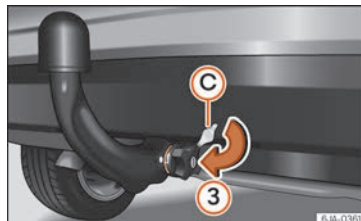

Fig. 237 Placing the key slot cover.
- Place cover **C** over the manual regulator lock in the direction of arrow **3** » **Fig. 237**.